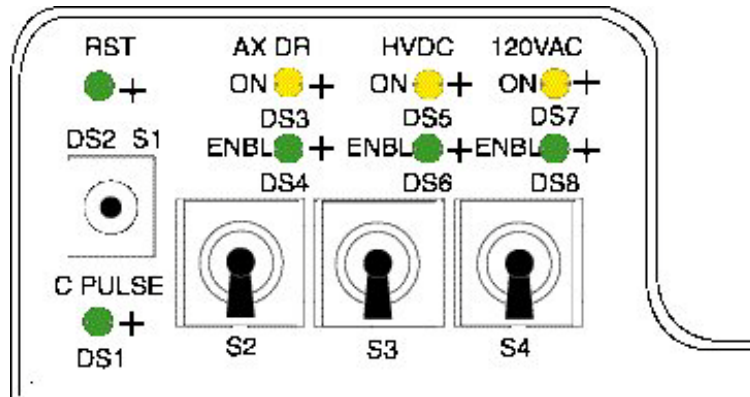

Figure A-10 STC Power Switches
- 3.) Verify the three (3) power switches have been turned OFF (see Figure A-10).